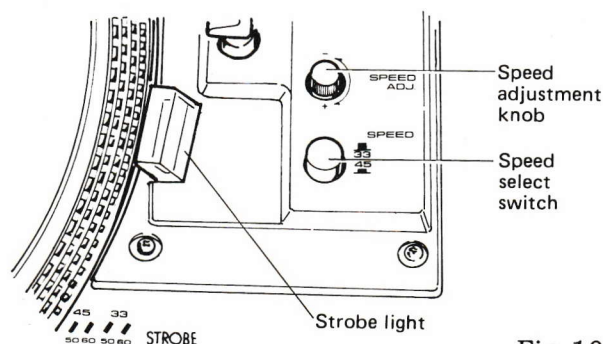

Fig. 10
2. Set the SPEED select switch to either "33" or "45", according to the speed of the record to be played (Fig. 10).